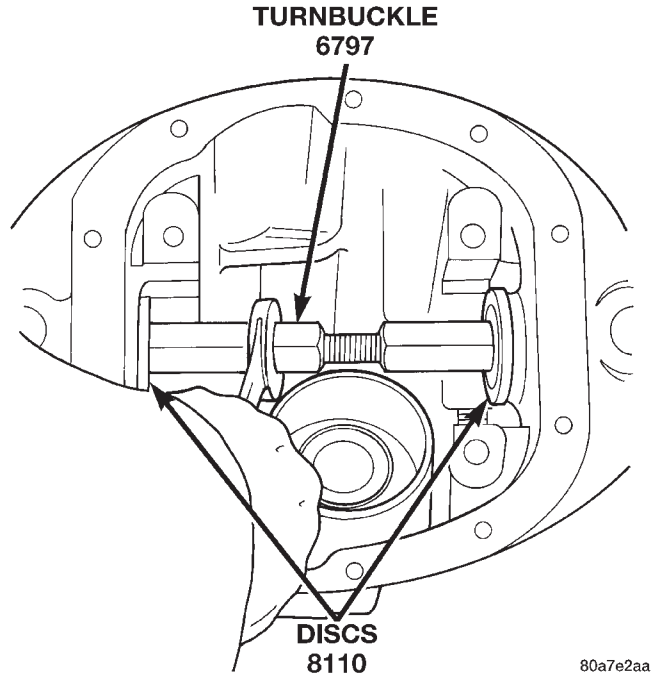

Fig. 25 Axle Seal Installation
- (1) Remove any sealer remaining from original seals.
- (2) Remove sealer from axle tube to housing junction, if necessary.
- (3) Install oil seals with Discs 8110 and Turnbuckle 6797 (Fig. 25). Tighten tool until disc bottoms in housing.
- (4) Install differential assembly.